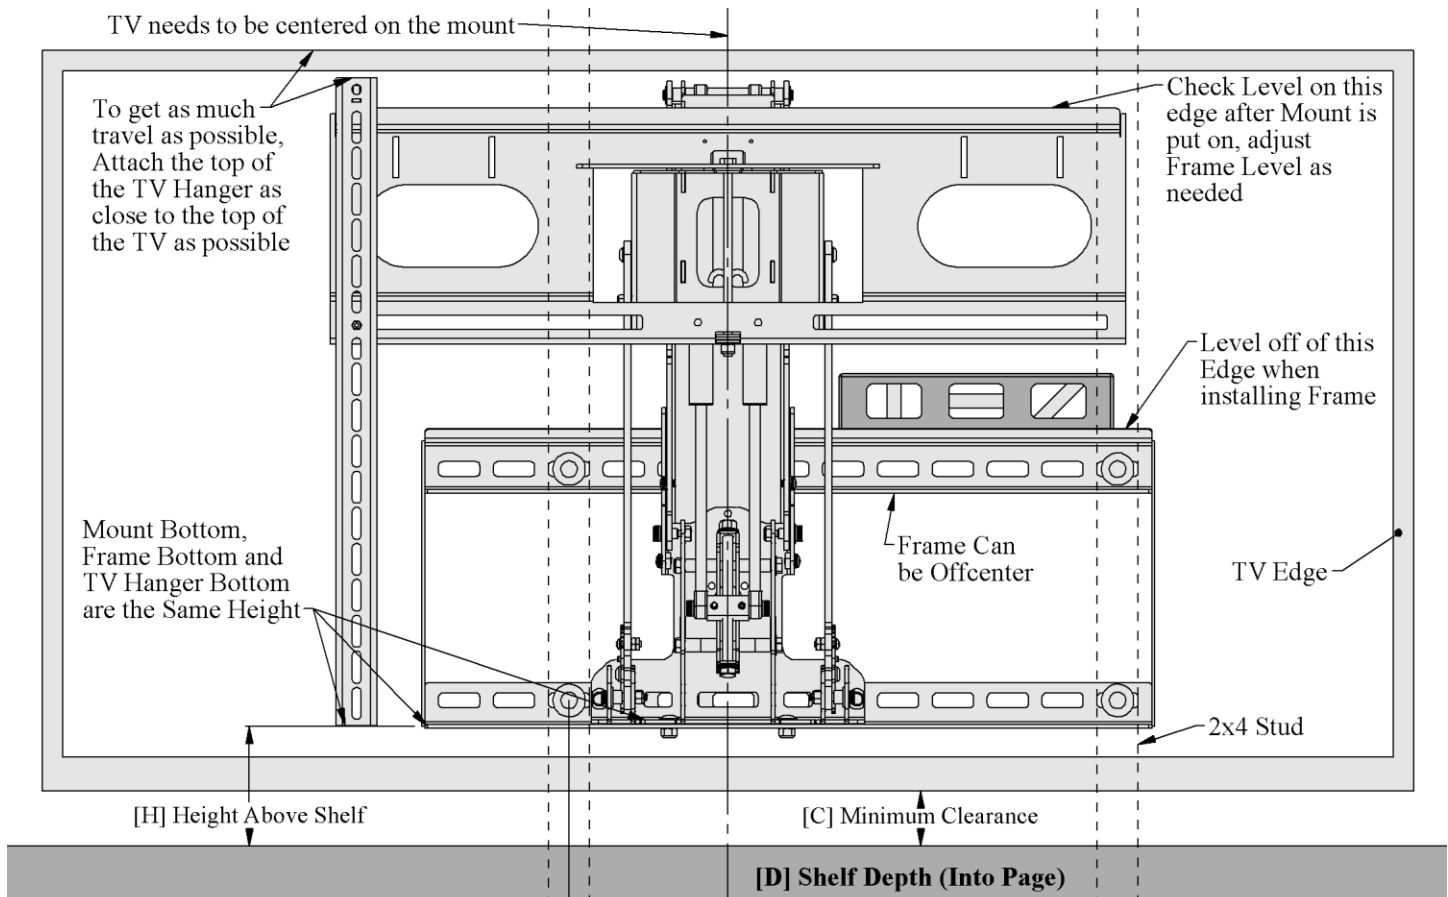

Figure 8, Positioning Mount on the Wall
4. Figure 8 shows the important things to look for and measure.
6. Level the mount as shown in Figure 8.
The TV Clearance Table shows the minimum clearance [C] needed between the shelf top and the bottom of the TV (or the bottom of an attached soundbar, whichever is lower) for the mount to swing around the shelf. To find the clearance needed, find the shelf depth [D], in this example 8", and go down the column and find the corresponding minimum clearance height [C], which is 2.5". Figure 8 shows where to measure [C] and [H].